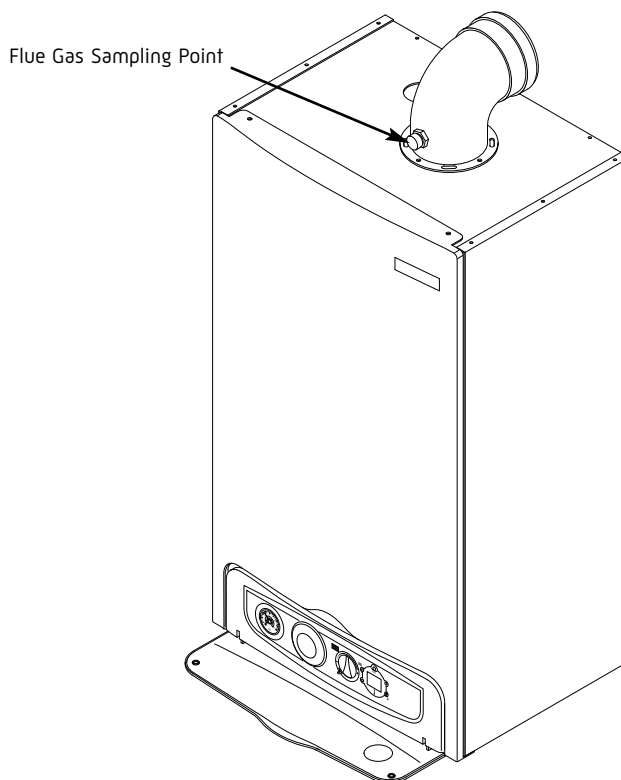

Fig. 47
4. With the appliance operational, connect the flue gas analyser to the flue sampling point as shown in Fig. 47.